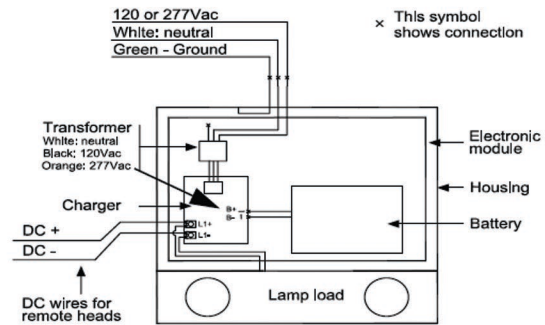

FIG 4.
- a. Remove the lens-legend (3). Disconnect the lamps from terminal block (see fig 4) and remove the electronic module (3). Four screws secure the electronic module to the housing.
Auto-diagnostic models (refer to figure 4.):